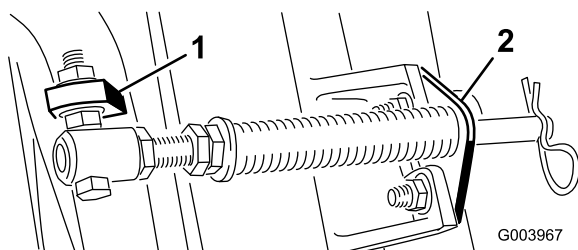
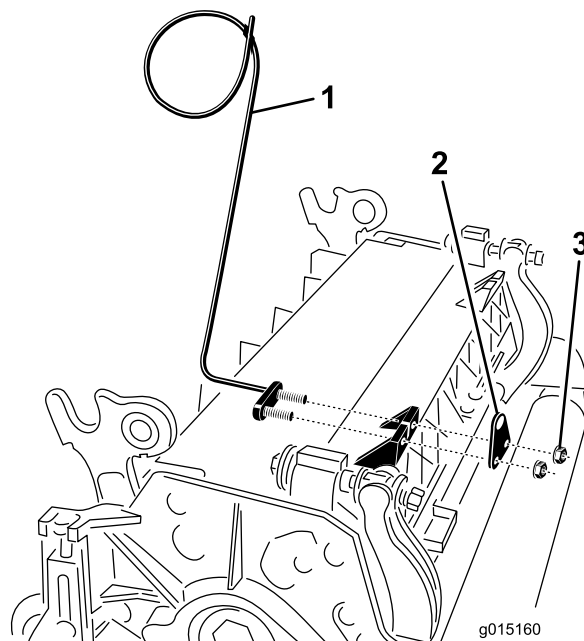

Figure 6
Figure 8
nut. The bolt head is to be positioned to the outer side of the tab as shown in Figure 6.
D. Mount the rod bracket to the cutting unit tabs with the carriage bolts and nuts (Figure 6). Also, on the cutting unit, mount the left hand hose guide to the front of the cutting unit tabs when reinstalling the rod bracket (Figure 8).